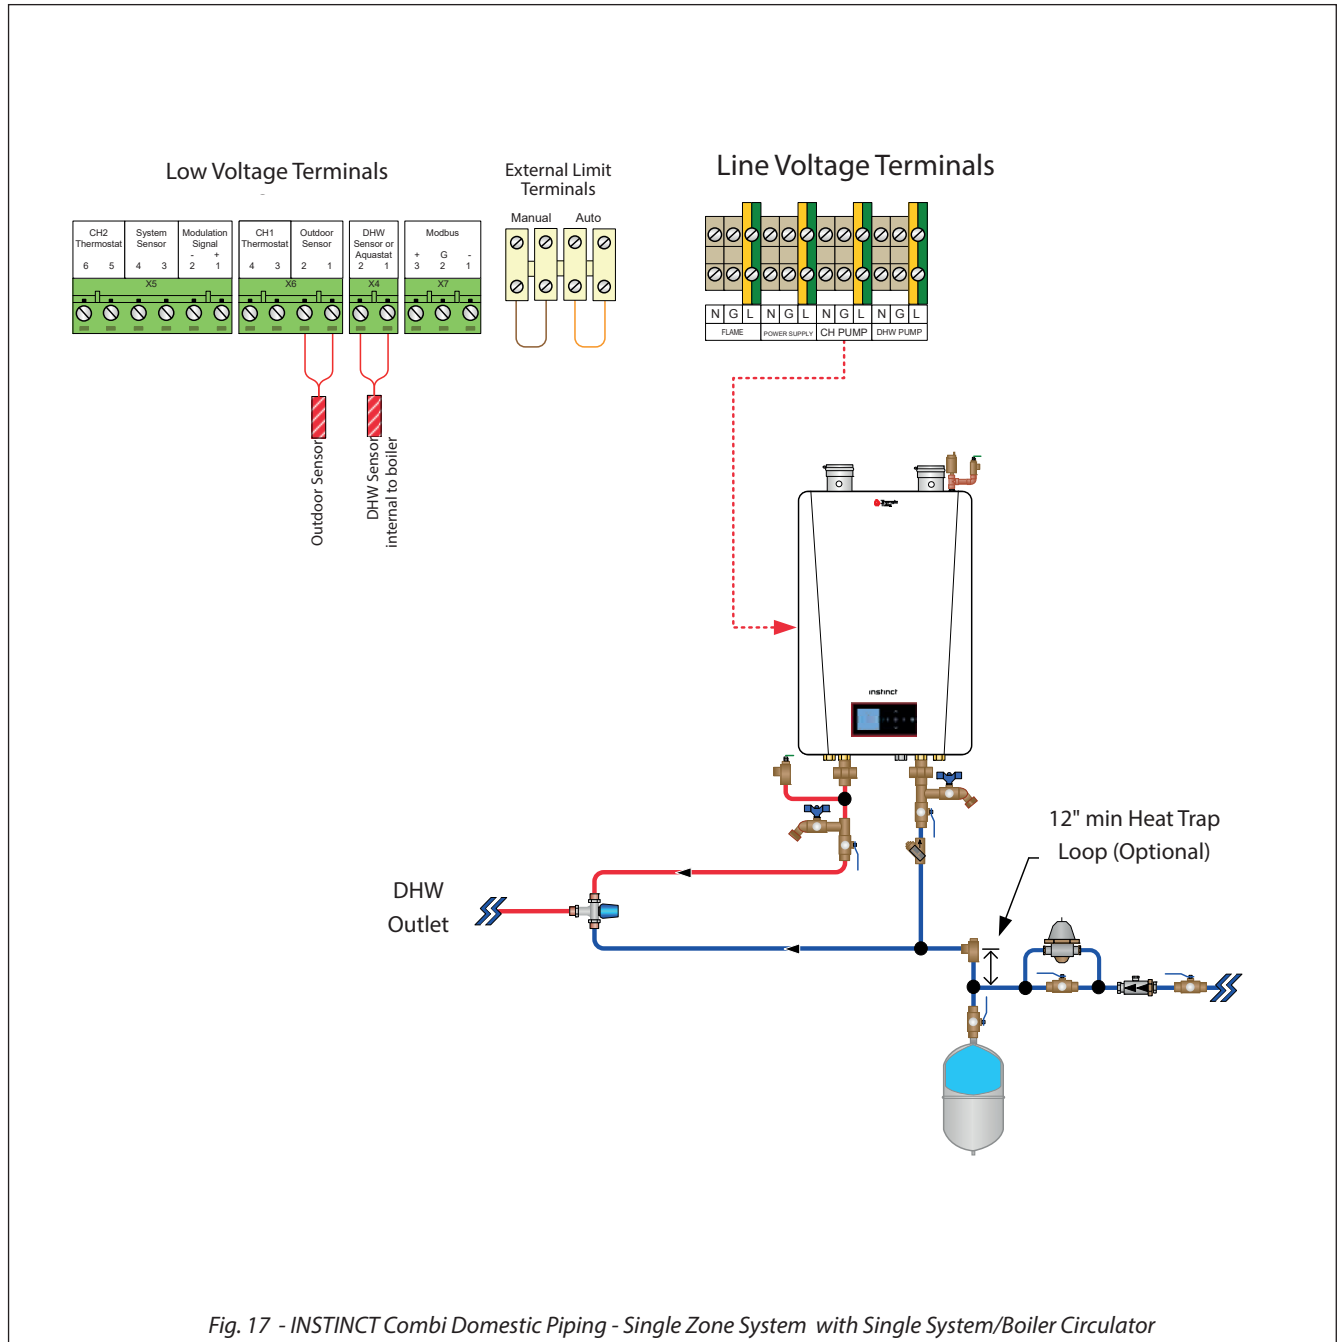

Fig. 17 - INSTINCT Combi Domestic Piping - Single Zone System with Single System/Boiler Circulator
- For domestic water piping diagrams, see *Fig. 17 on page 31*.